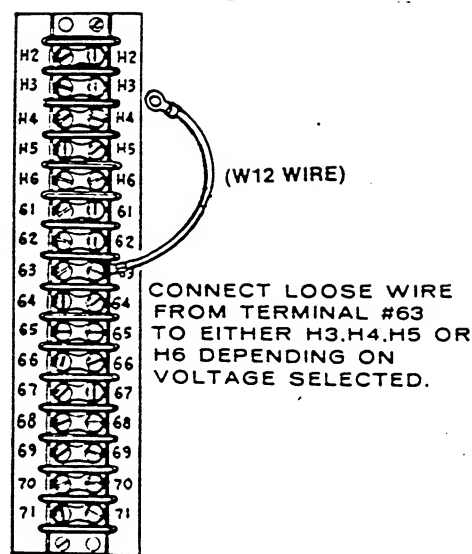

FIGURE 14. REFERENCE VOLTAGE CONNECTION (TB21)
3. Open hinged control panel doors. Connect lead from terminal 63 to correct terminal for voltage desired. These terminals are labeled H2, H3, H4, H5 and H6. See Figure 14.